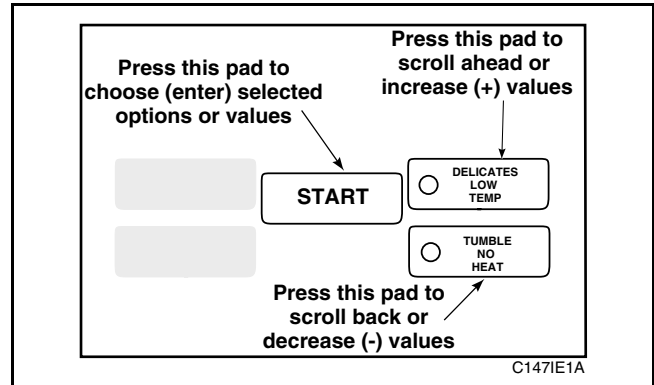

Figure 84
5. Press the LOW TEMP (+) pad or the NO HEAT (-) pad to increase or decrease the hours to the correct time, *Figure 84*.